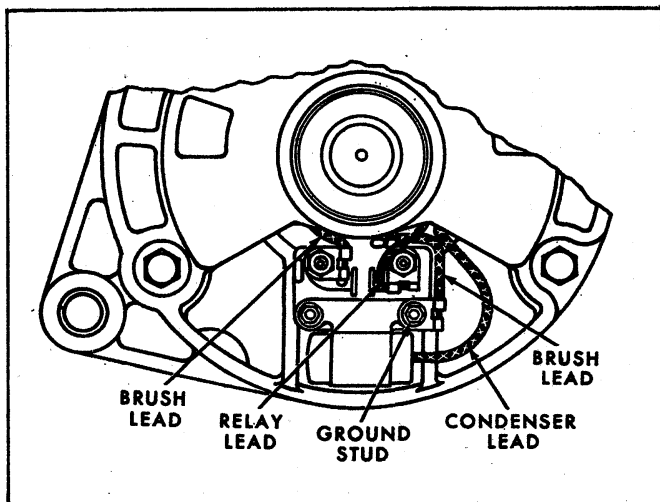

Fig. 18c—Lead Arrangement after Assembly
5. Rearrange leads as shown in Figure 18c with right-hand brush lead connected under the right hand hex-head stud.